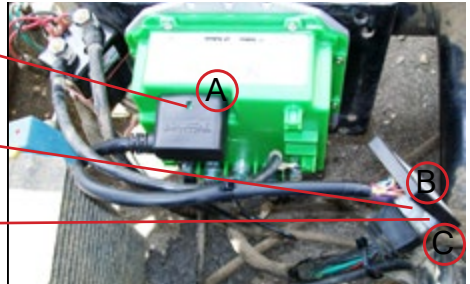

fig.3
7. Install the 20 Pin Connector (fig 3 & 4, A) on the Navitas Vehicle Module Harness to TSX Controller
8. Install the 16 Pin OEM Connector (fig 3 & 4, B) to the Navitas Vehicle 23 Pin Module Harness
9. Optional - connect 8 pin connector (fig 3 & 4 C) to the "On The Fly" Programmer).